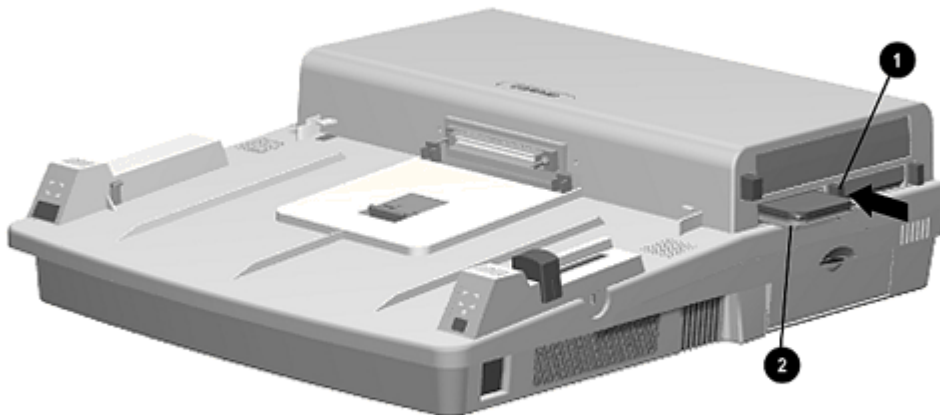

Figure 7-7. Removing a PC Card
1. Push the PC Card release button [1]. The card [2] ejects out of the card slot (Figure 7-7).